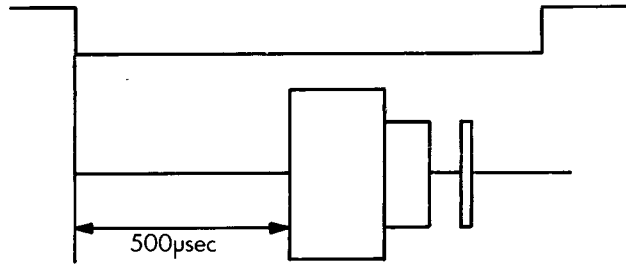

Fig. 5-1 Index burst waveform
- 5) Measure timing between sweep start and an initial data pulse. It should be 500 usec  $\pm$  500 usec. When the timing is not within this range, proceed with the following adjustment. (Refer to Fig. 5-1).
- vi) Adjust VR201 so Index frequency is  $200 \pm 2$ ms (See Fig. 5-1).